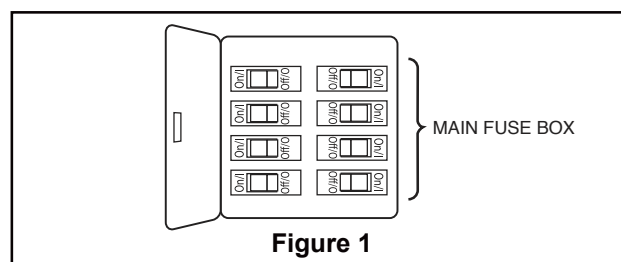

Figure 1
1. Remove one of the two shoulder screws in the hanger bracket. Loosen the second shoulder screw without fully removing it. Assemble canopy by rotating key slot in canopy over shoulder screw in hanger bracket. Tighten shoulder screw. Fully assemble and tighten second shoulder screw that was previously removed. (Figure 1)
1. Slide blades through slots in the motor assembly and position over the threaded posts of the motor assembly. Make sure the bottom edge of the blades are fully seated against the flywheel of motor assembly. Tighten washer-head screws with fiberwashers to secure the blades to the threaded posts of motor assembly. (Figure 1)